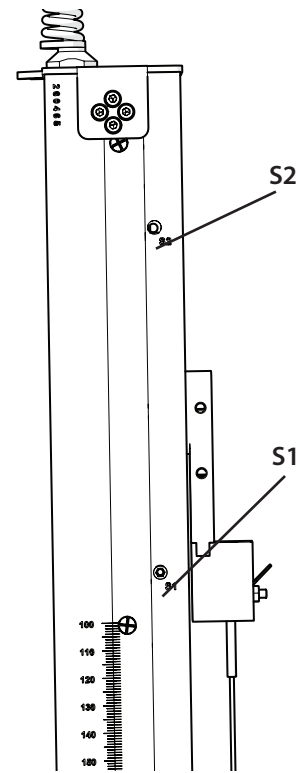

Figure 16: S1 and S2 Positions
5. Nudge the Z-arm up to 187 mm. Use the scale on the Z-arm to confirm your adjustment. The top of the alignment clip, attached to the mounting bracket, should be flush with the correct line on the scale. Refer to Figure 16.